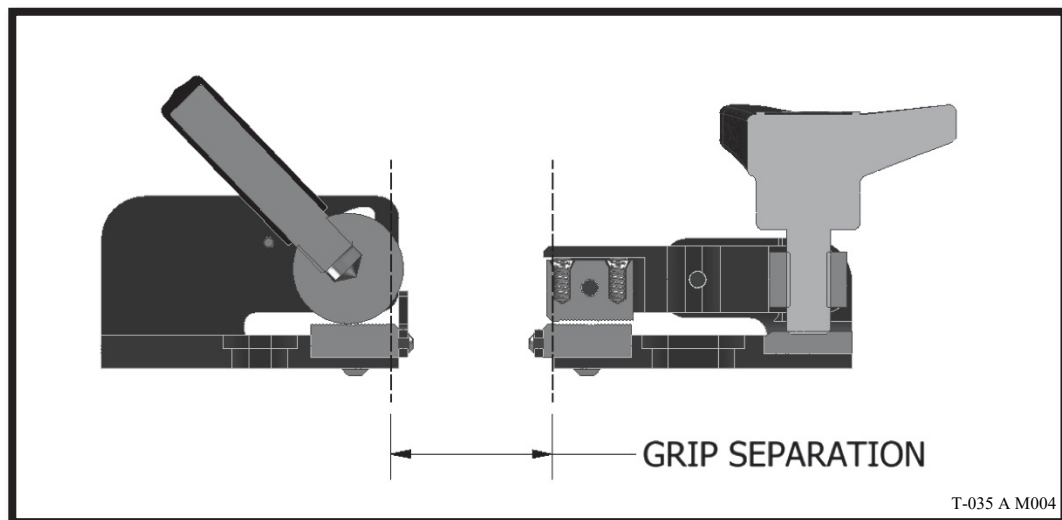

Figure 5.5
- a. **Grip Separation (GS):** The distance between the grip point on each of the left and right sample grip assemblies (refer to Figure 5.5). There are two user settable distances, A or B, which have been factory set for 1.7 and 3.5 inches respectively. The operator must be aware of these values and change the settings if necessary (refer to Section 5.5) to accommodate the particular sample to be tested.